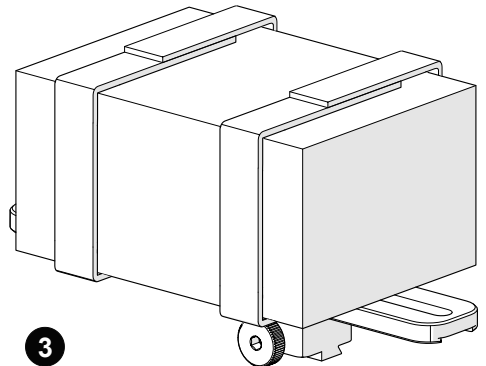

Fig. 89 - Mount bracket on a frame bar
3. Secure the preamp to the bracket attaching each side of the velcro (Fig. 89).